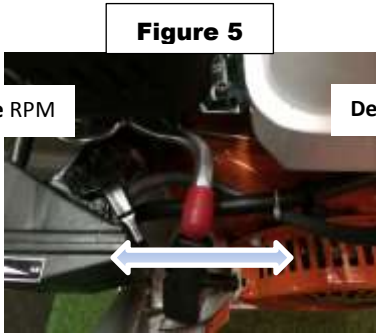

Figure 5
- Assure the throttle is pushed to the left. (figure 5)